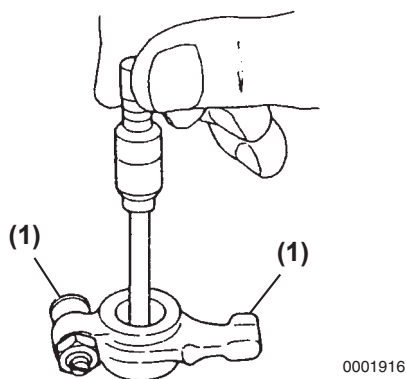

Figure 4-2-12
Use a telescoping gauge and micrometer to measure the inside diameter of all the rocker arm support brackets and the rocker arms (Figure 4-2-12). Record the measurements. See "3-2 Engine Service Standard" section for the service limit.
Inspect contact areas (Figure 4-2-12, (1)) for excessive wear or damage.